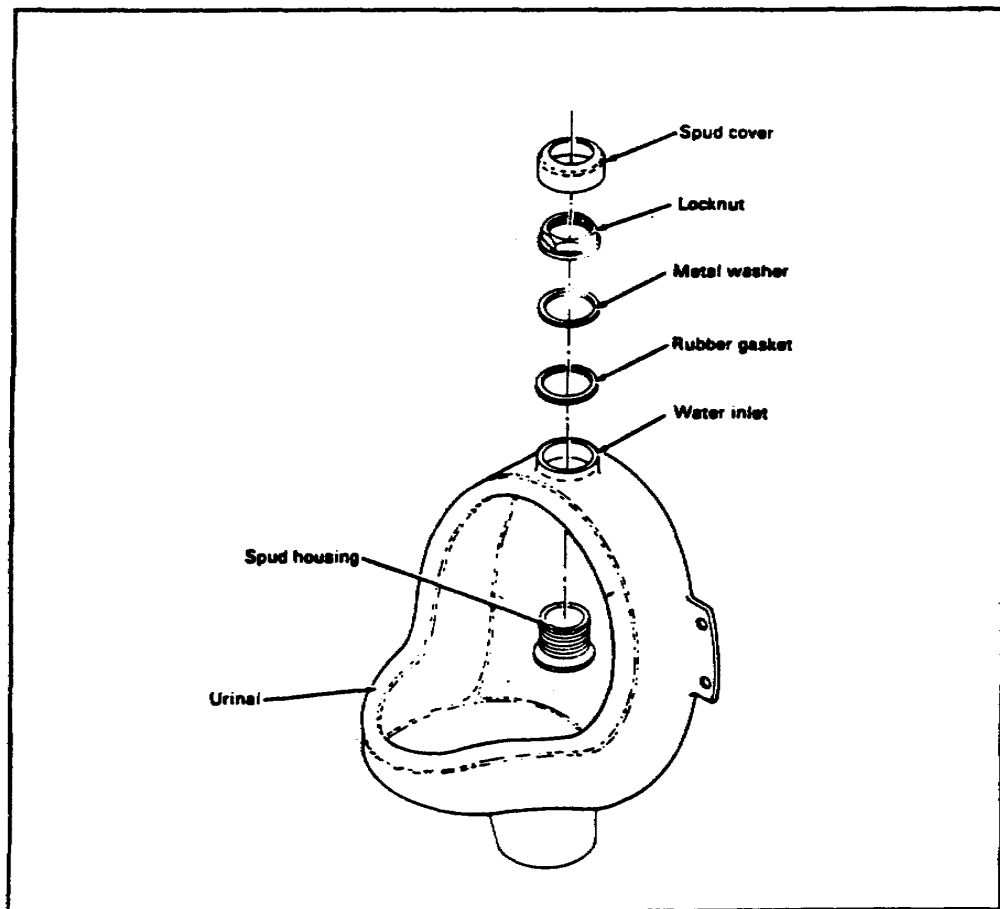

FIGURE 41. INSTALLING WATER INLET CONNECTION TO URINAL BOWL
**Installing urinal's water inlet connection.** Use the following steps to install the urinal's water inlet connection (see Figure 41):